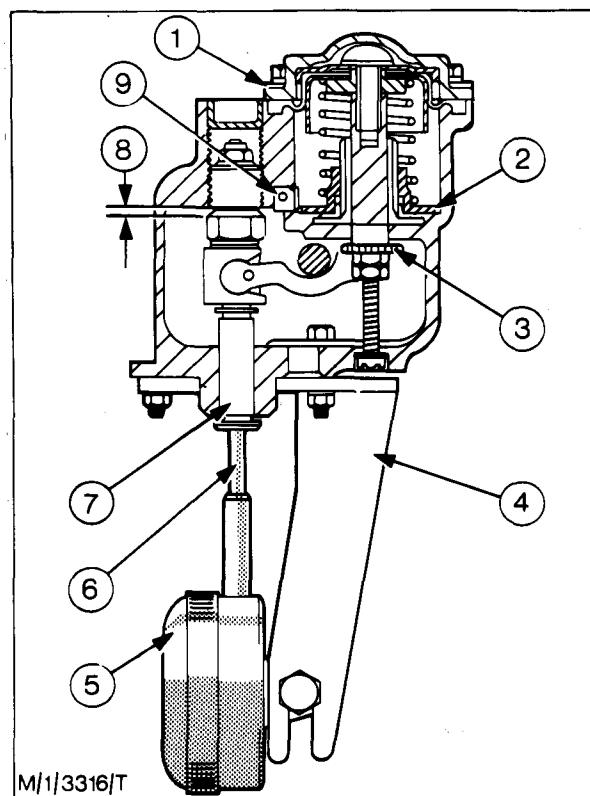

Fig. 60 - Boost Control Static Test Assembly
21. Mount the boost control unit onto the mounting bracket (TOOL NO. HM 89558) - see Fig. 60.
29. Reduce the air pressure until the 'Intermediate Fuel Rod Travel' is shown on the dial gauge. The air pressure should be within the limits given in the table; if it is not, adjust wheel (2) Fig 60, until the correct rod travel and pressure is obtained.
11. When the 'Intermediate Fuel Rod Travel' setting is satisfactory, decrease the boost pressure to 'Reference Pressure No 2 and adjust wheel (3), Fig. 60 to give the specified 'Total Fuel Rod Travel'. Lock the wheel and increase boost pressure until fuel rod starts to move; note the pressure. Increase pressure until fuel rod reaches the limit of its travel and note the final pressure. 'Start Pressure' and 'Finish Pressure' should be within the specified limits.
12. Ensure that wheel (2) is locked by the 'click spring' after final adjustment.